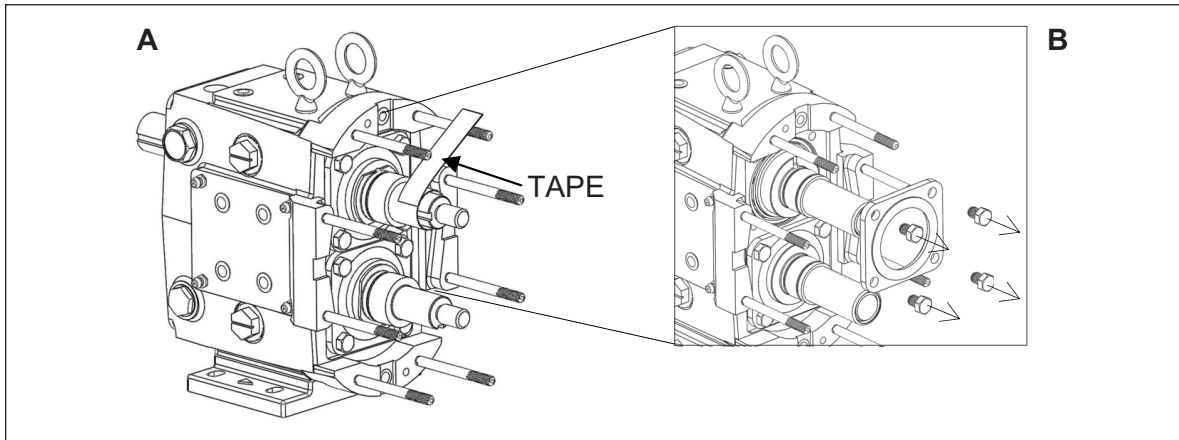

Figure 41. Tape Shafts and Remove Bearing Retainers
3. To prevent damage to the shafts, wrap the splines and rotor nut threads with tape (Figure 41, A). Any damage to the splines or threads may require the shaft be replaced. Remove the cap screws holding the bearing retainer and splash plates in place and slide both off the shaft (Figure 41, B). If they are stuck, use a flat head screw driver as a wedge to pry them from the gear case or leave them in place and when the shafts are removed they will press off with the shafts. Using a straight edge, remove the liquid gasket used to seal bearing retainer to the gear case.